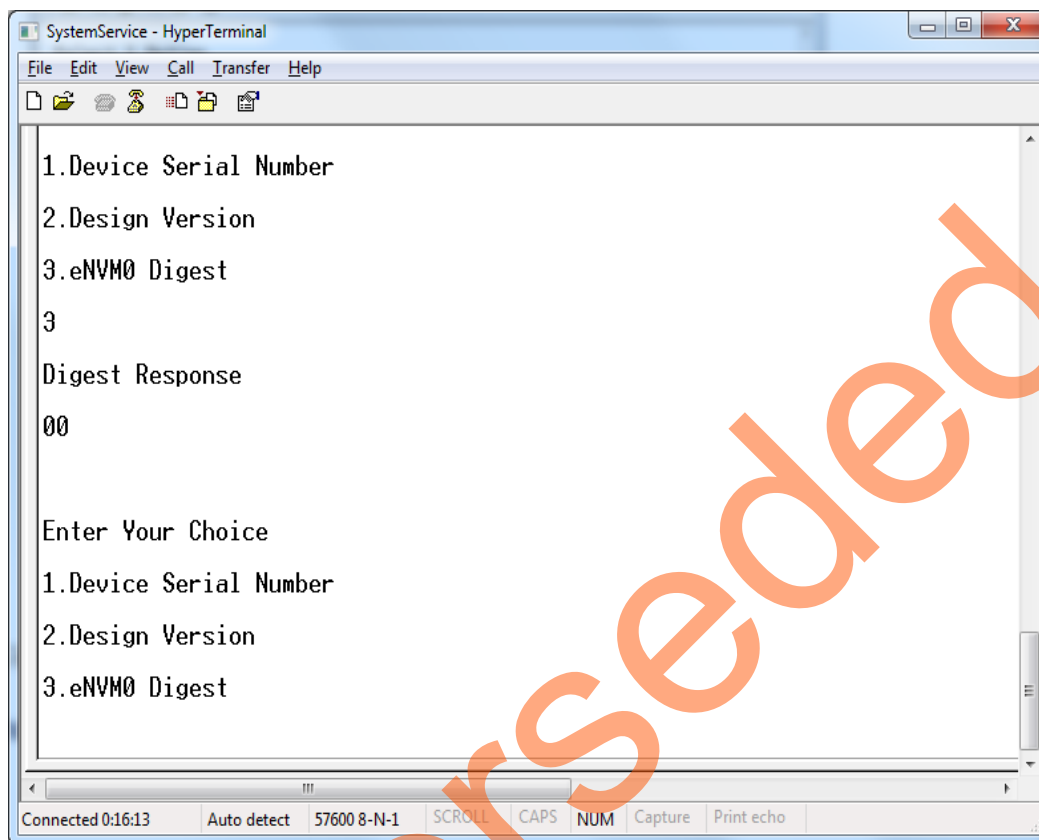

Figure 13 • eNVM0 Digest Response
7. Select option 3 to get eNVM0 digest response. Figure 13 shows the HyperTerminal displaying the digest response. Digest Response 0 indicates digest passed.